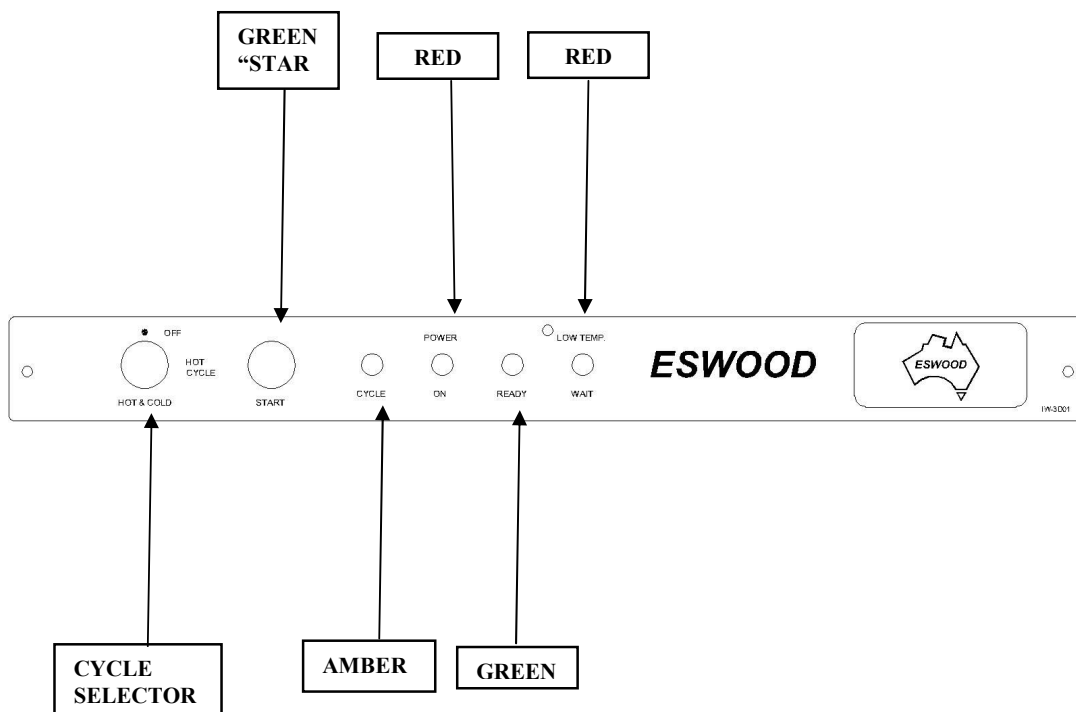

FIGURE 2.
4. With the "READY" pilot light on, push the Start button. While the machine is running the amber "CYCLE" light is illuminated.(see Figure 2.)